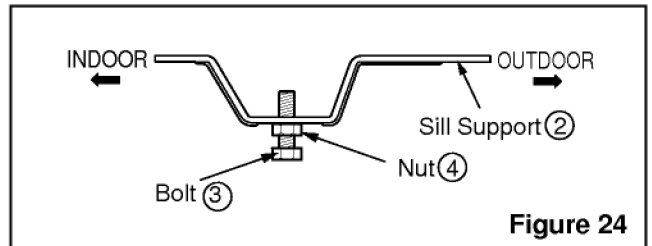

Figure 24
3. Loosely assemble the sill support. (See figure 24)